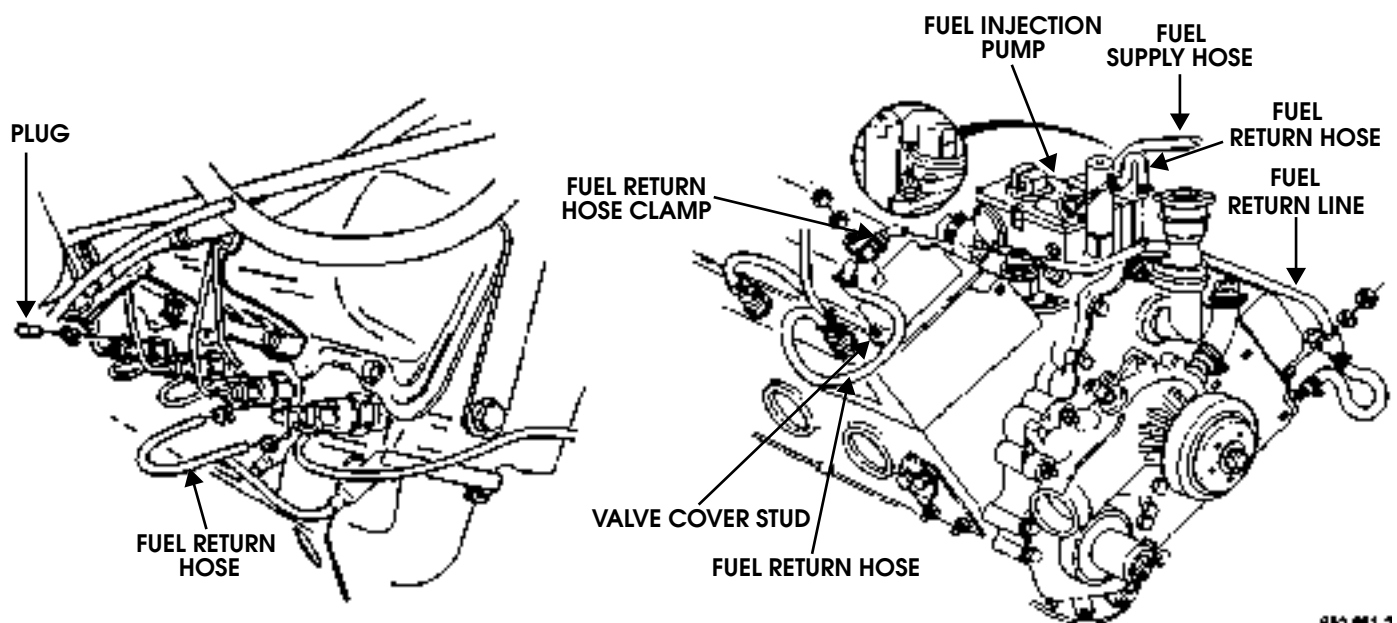

Figure 2-76: Fuel Supply and Return Line Routing
1. Loosen clamp and remove fuel supply hose from fuel injection pump (Figure 2-76).
2. Loosen clamps and remove fuel return hose from injection pump and return line (Figure 2-76).